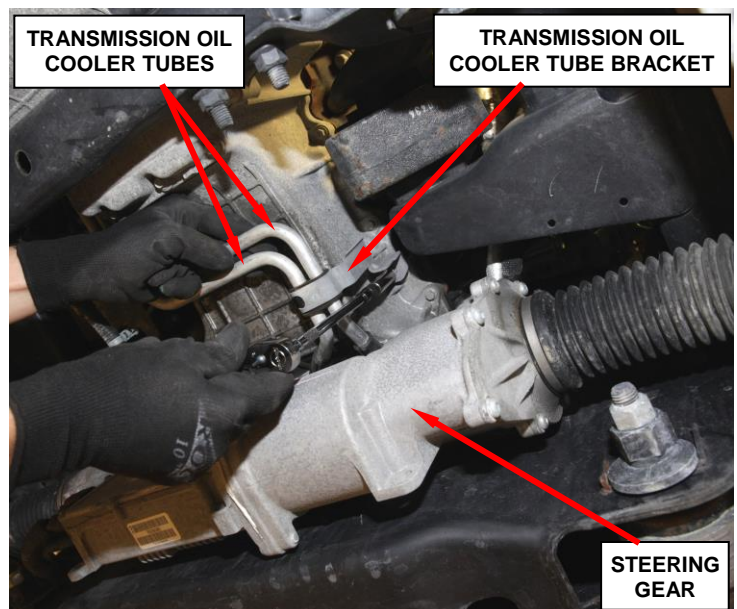

Figure 10 – Transmission Oil Cooler Bracket
24. Remove and save the transmission oil cooler tube bracket at the engine oil pan (Figure 10).
37. Connect the transmission oil cooler tube bracket to the engine oil pan (Figure 10).